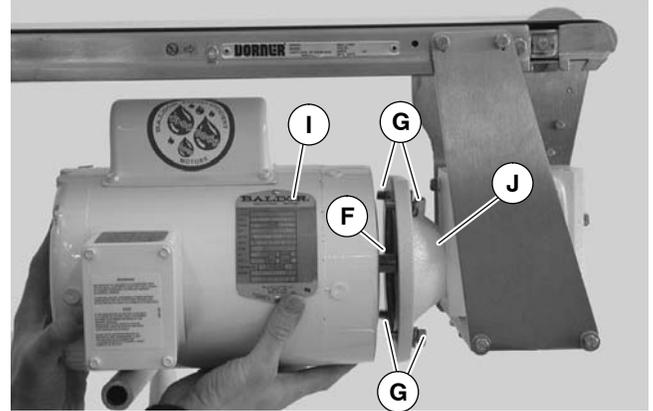

Figure 29
6. Attach new gear reducer to bottom mount with screws (Z).
7. With key (F of Figure 29) in keyway, slide motor (I) and gear reducer (J) together. Install screws (G) and tighten.